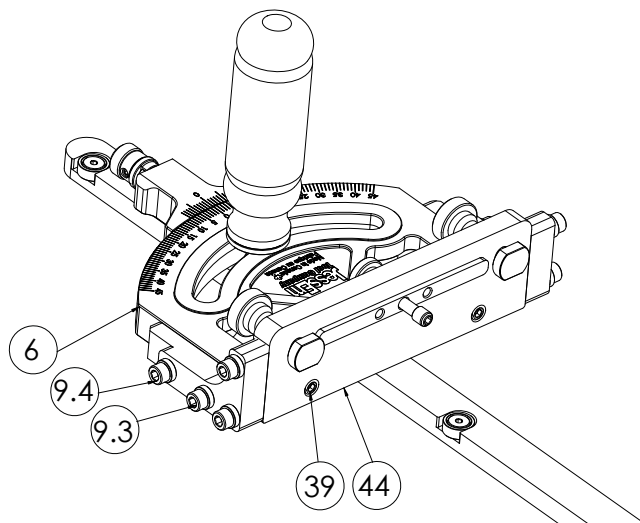

Figure 13
- d. Push the Fence Mount (Part #44) against the Gauge Body (Part #6) and retighten the (4) four #10-32 x 7/8" Socket Head Screw (Part #9.3 & 9.4), you loosened in step "c" as shown in **Figure 13**.